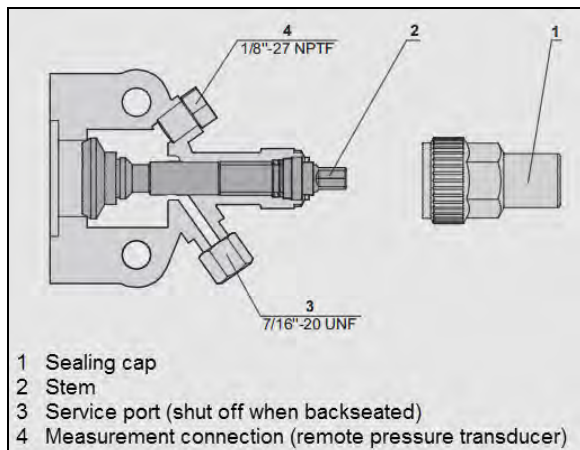

FIGURE 57: COMPRESSOR SHUTOFF VALVE IN FRONT SEATED POSITION
3. Close (front seat) the receiver tank outlet shutoff valve by turning the stem clockwise (Figure 57).
10. Close (front seat) the suction shutoff valve on the compressor (Figure 57).